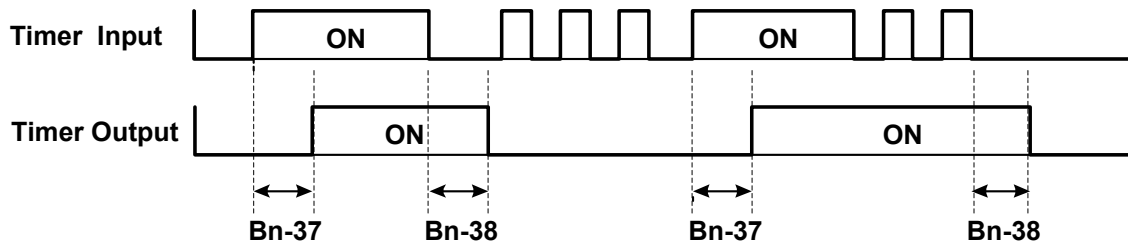

Fig. 9.2.1.4 Timer Input / Output Example
- An example is shown below in Fig. 9.2.1.4.